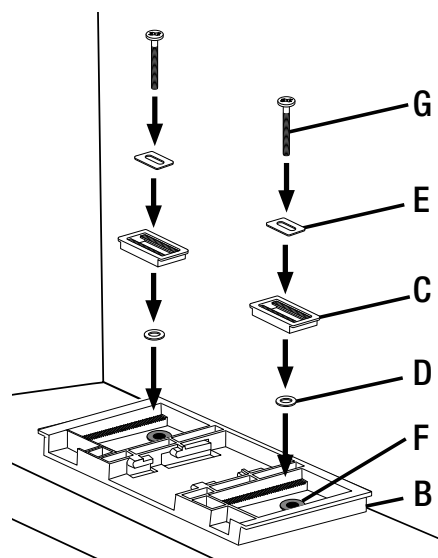

Fig. 4
4. Place one washer (D) onto each expansion nut (F). Place screw (G) through a rectangular metal gasket (E), then through a fixed guide plate (C). Repeat with the other screw. Attach this assembly onto the expansion nut (F) (with the washer (D) in between). As the screw is attached to the expansion nut, all components will come together and be fitted into the grooves of the mounting plate (B). Use screwdriver to tighten mounting plate to toilet. See Fig. 4.